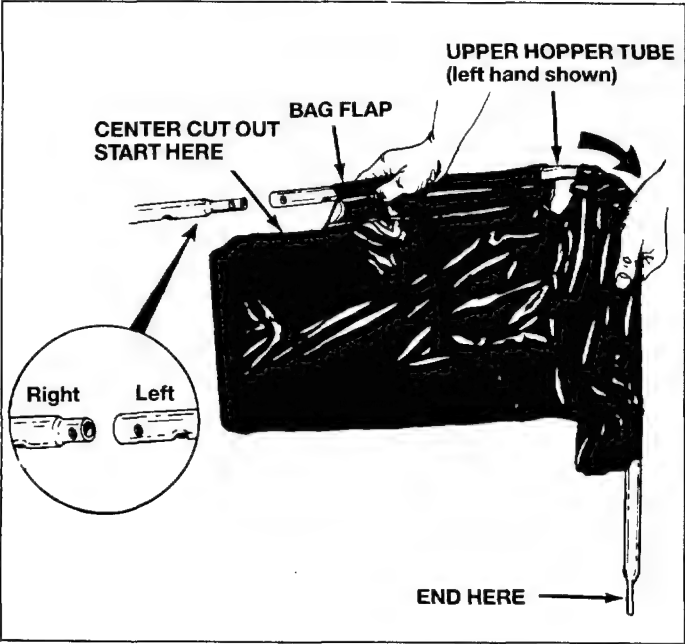

Fig. 12
1. Insert the left hand upper hopper tube through the hopper bag stitched flaps, starting at the center cut out in the top of the hopper bag. See figures 12, 13 and 14. Repeat for the right hand upper hopper tube.